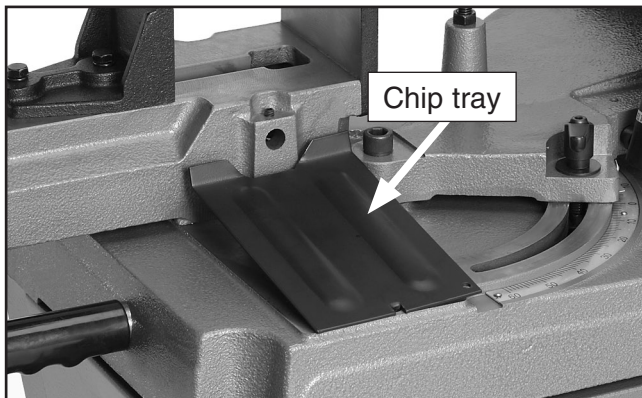

Figure 14. Chip tray installed.
1. Position the chip tray as shown in **Figure 14** if you choose to use this accessory.